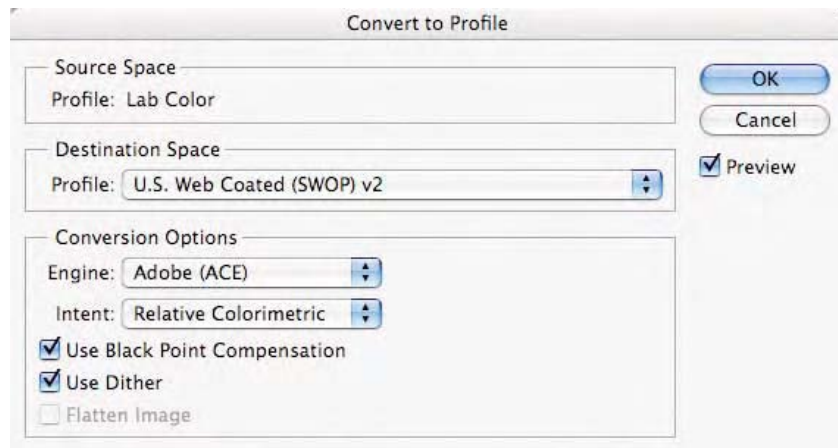

Fig. 9-3-1 The **Convert to Profile** command should be set as seen here. It is OK if the source space is not LAB color.
2. Choose **Image-Mode-Convert to Profile** in Photoshop CS or **Edit-Convert to Profile** in CS2 as seen in Fig. 9-3-1.